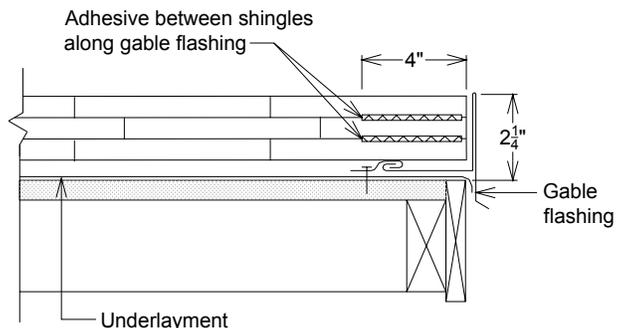

FIGURE 12. GABLE FLASHING
8. Install the gable flashing along gables. Lap flashings a minimum of 4". Do not nail through the flashing to fasten small shingle pieces. Use copper wire and adhesive. (Figure 12) A standard "D" edge flashing can be used if the step openings along the edge are filled with grout. Oxide is available to color grout to match the shingles.